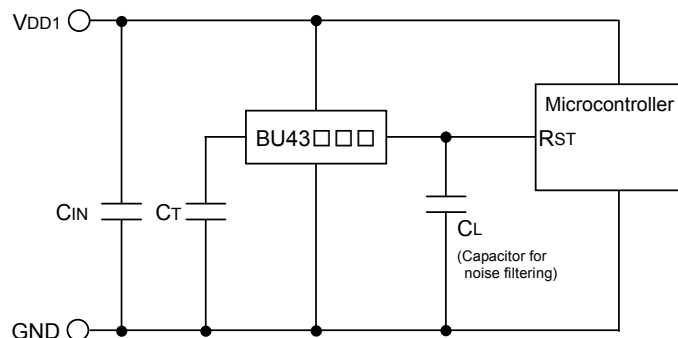

Fig.19 CMOS Output type
Use CMOS output type (BU43□□G/FVE) or Open Drain Output Type (BU42□□G/FVE) attached a load resistance (RL) between the output and Vdd1. (As shown Fig.19)